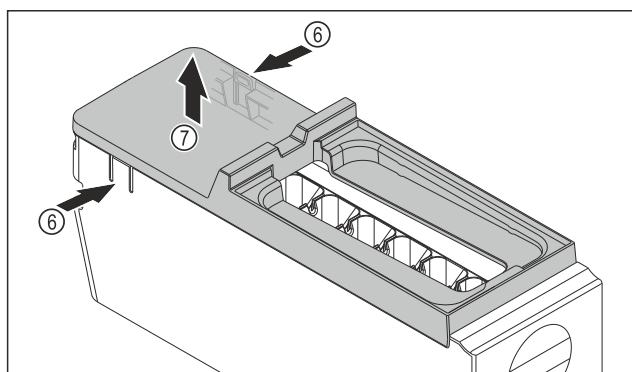

Fig. 121
- Removing the EasyTwist-Ice body cover: Push the tabs Fig. 121 (6) on both sides of the EasyTwist-Ice body with one hand.
- Use the other hand to remove the cover Fig. 121 (7) upwards.